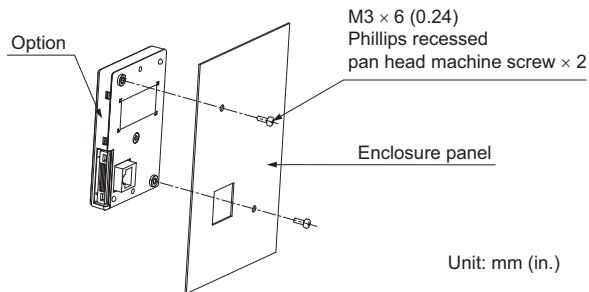

Figure 11 External/Face-mount Installation
2. Position the option so the LCD display faces outwards, and mount it to the enclosure panel as shown in Figure 11.